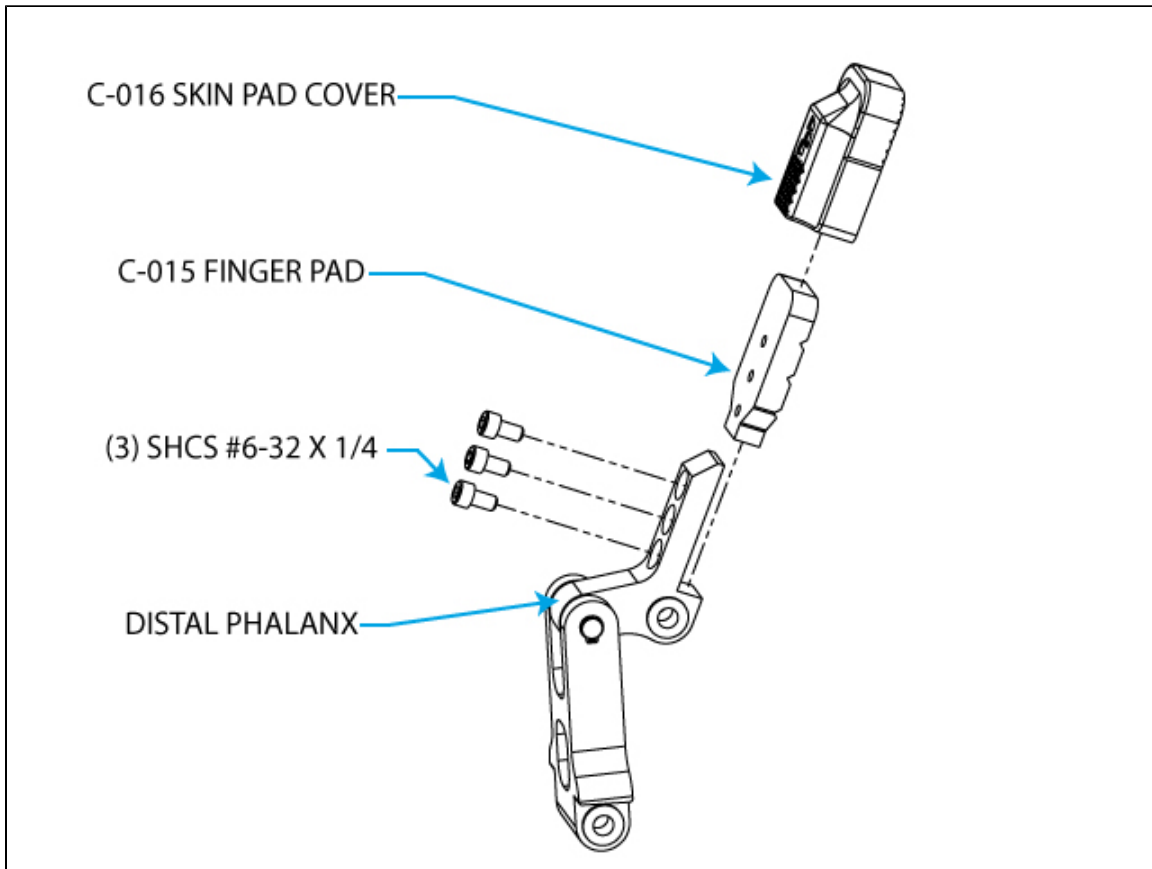

Figure 6.6.1 : Assembly of standard C-015 Finger Pad or custom pad to the Robotiq 2-Finger - 85 Gripper .
The Robotiq 2-Finger Adaptive Robot Gripper - 85 Finger pads can be customized to fit your gripping application. The Finger Pad C-015 is fixed to the Distal Phalanx of the Gripper as shown in Figure 6.6.1. For a list of available parts see Section 8. Spare Parts, Kits and Accessories. For custom finger pads please contact your Robotiq distributor.
5. Insert the new finger pads by gently stretching them and pulling downward following Figure 6.6.1.